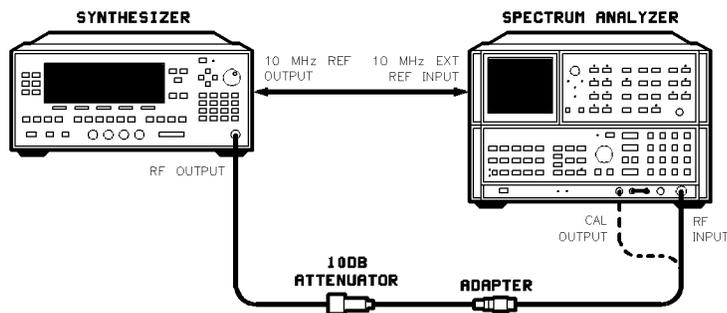
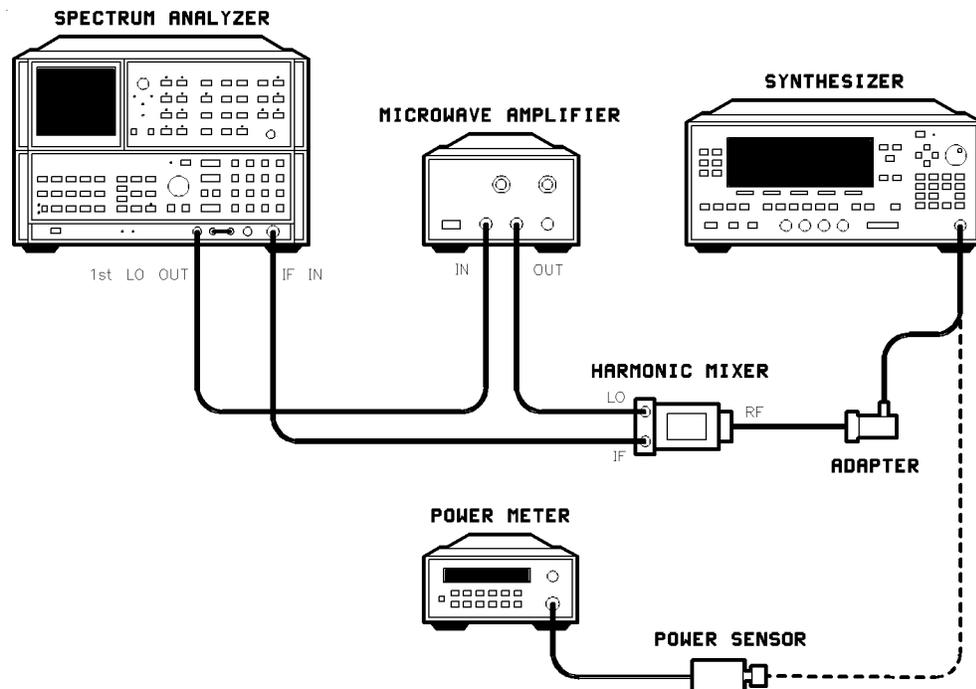

Figure 2-9. Spurious Signals (Harmonic) Test Setup < 20 GHz
Figure 2-10. Spurious Signals (Harmonics) Test Setup > 20 GHz
1. Turn on the equipment shown in Figure 2-9 and Figure 2-10. Preset the instruments and let them warm up for at least one hour.
3. Connect the equipment as shown in Figure 2-9.
13. Connect the equipment as shown in Figure 2-10 using the HP 11970K Mixer (20 to 26.5 GHz).